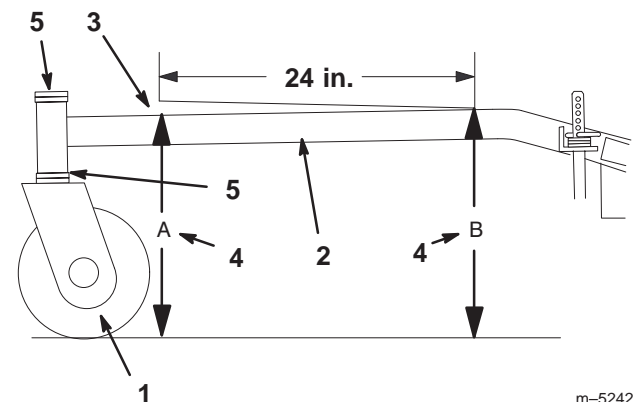

Figure 47
1. Measure out 24 inches on the carrier frame (Fig. 47).
2. Measure carrier frame height at location "A" (Fig. 47).
3. Measure carrier frame height at location "B" (Fig. 47).
4. The height at location "A" must be a 1/4-3/8 in. lower than location "B" (Fig. 47).
5. If the carrier frame is not correct, move caster spacers to make it a 1/4-3/8 in. pitch (Fig. 47). Move spacers from top or bottom to make the correct pitch.